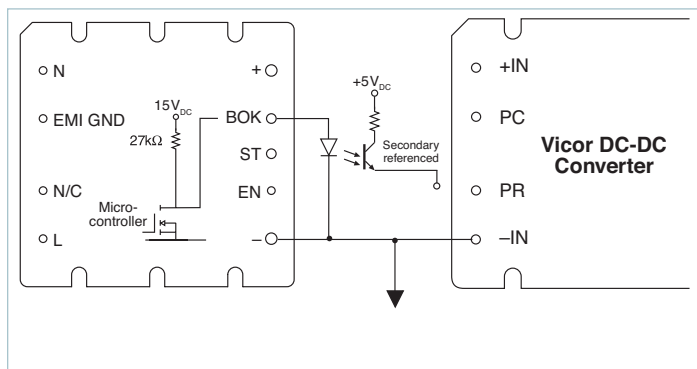

Figure 11 — Bus OK (BOK) isolated power status indicator
**Bus OK (BOK) Pin:** (See Figure 11) The Bus OK pin is intended to provide early-warning power fail information and is also referenced to the negative output pin.